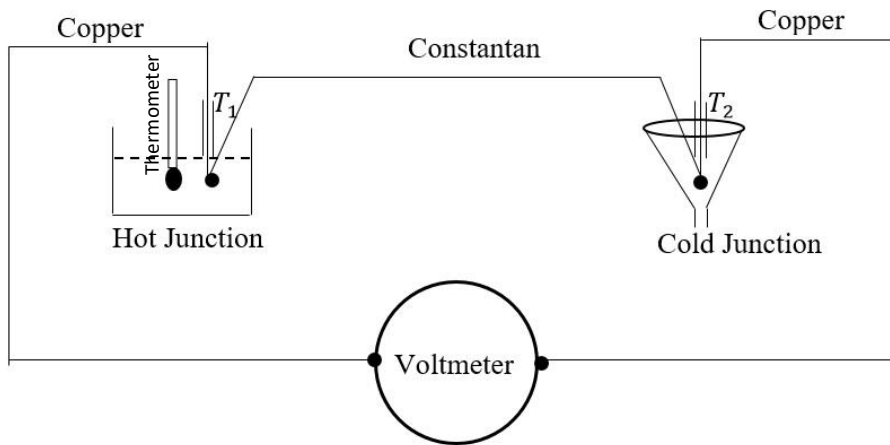

Figure 1
- **Construction of thermo-couple:** A copper(Cu)-constantan(Cn) couple is employed for this experiment. To prepare this couple, three pieces of wires, each of one meter long are taken, of which one is of Cn, while the other two are of copper. The two ends of Cn wire are cleaned and are joined by twisting with one end of each of the copper wires. Then these junctions are soldered with minimum amount of solder covering a length of about 2-3 mm of each junction. Two glass tubes  $T_1$  and  $T_2$  (figure below, Fig. 1) are introduced in the copper wires to be sure that the metals touch at the junctions only.
Ice is poured in the funnel (see Fig. 1) to cool the right hand junction to  $0^\circ\text{C}$ . The left hand junction is dipped inside a pot filled with water. The water temperature can be varied using a heater controllably and the corresponding temperature should be measured using a thermometer placed near the junction inside the water (see the figure). To measure the thermo-e.m.f a voltmeter (that can measure millivolt) is used.